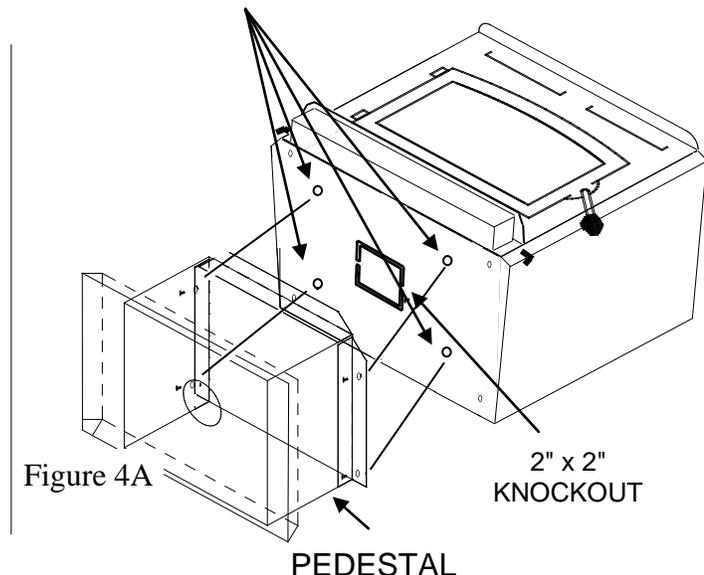

Figure 4A
6. **(Pedestal Kit):** If pedestal kit is being used and outside air is required for residential free standing installation see page 25, *Out Side Air Installation*. Open freestanding kit and obtain the stand. Place stand against bottom of heater (angle side to heater).Center stand front to rear and also center stand left and right. Mark screw locations on bottom of stove through outer holes of stand mounting angles. Set stand aside and drill four 7/32" holes in heater bottom. Before attaching heater to stand, take a large flat screwdriver or pliers and remove 2" x 2" knockout on bottom of unit. (See Figure 12A). Then mount stand to bottom of heater with screws provided. (See Figure 4A).
7. Obtain four (4) 3/16" self-tapping screws and secure stand to heater.